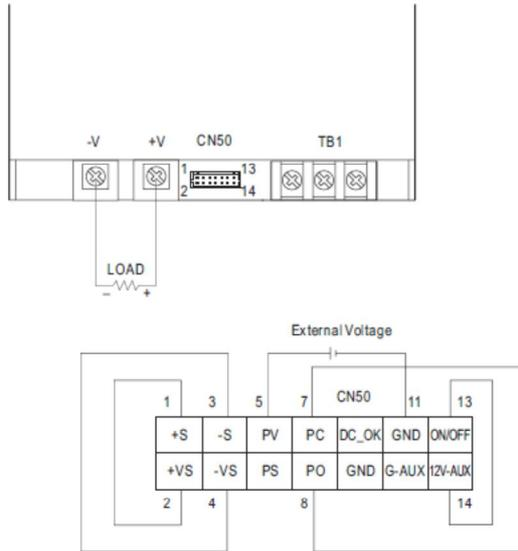

Fig5.1
(1) Using external voltage source between "PV" (pin5) and "GND" (pin 10,11) that is shown in Fig5.1